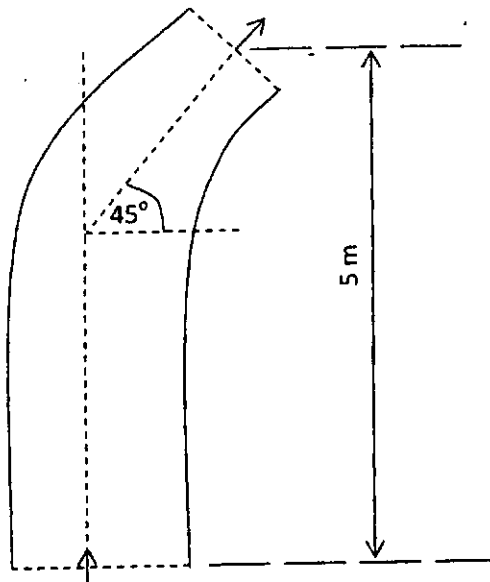

Figure Q3
- (b) A pipe bend placed in a vertical plane tapers from 500 mm section at inlet to 250 mm diameter at outlet. An oil of density  $9,000 \text{ kg/m}^3$  enters the reducing bend and turns through  $45^\circ$  in the clockwise direction following the profile of the pipe bend, which is shown in Figure Q3. When the oil flows at the rate of  $0.45 \text{ m}^3/\text{s}$  and the pressure at the inlet is  $140 \text{ kN/m}^2$ , determine the magnitude and direction of the resultant force on the bend.